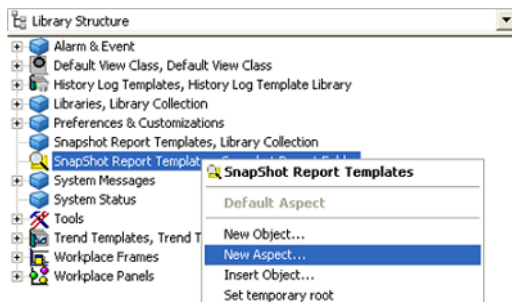

Figure 4. Create Snapshot Report template
1. Right-click on the Snapshot Report template folder where a new template needs to be created and select New Aspect as shown in Figure 4.